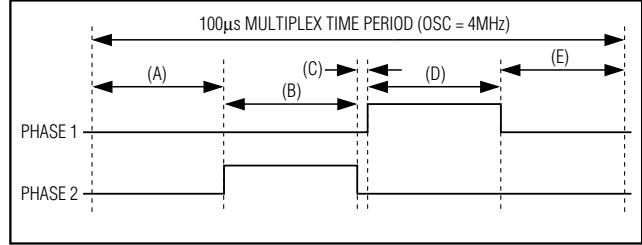

Figure 18. Filament Bridge Driver Timing Waveforms
The waveform generation uses PWM to set the effective RMS voltage across the filament, as a fraction of the external supply voltage (Figure 18) (Table 35). The filament switching frequency is synchronized to the multiplex scan clock, eliminating beating artifacts due to differing filament and multiplex frequencies.
The minimum commutation time, shown at (C) in Figure 18, is set by $(2/\text{OSC})\text{s}$ (500ns when $\text{OSC} = 4\text{MHz}$) to ensure that shoot-through currents cannot flow during phase reversal. Otherwise, the duty cycle of the bridge sets the RMS voltage across the filament. This technique provides a low-cost AC filament supply when using a regulated supply higher than the RMS voltage rating of the filament.